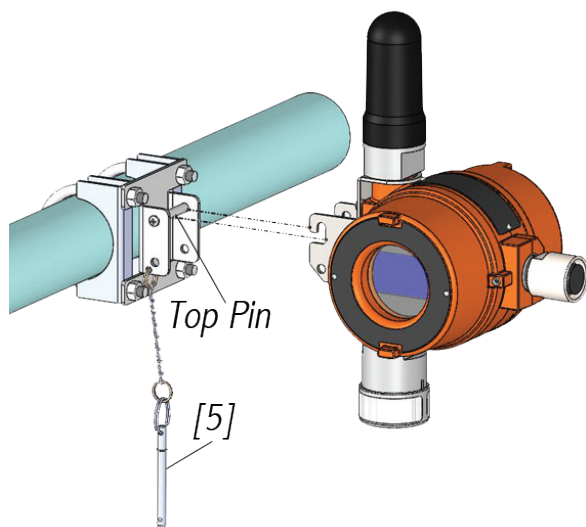

Figure 13
6. Mount device by hooking onto top pin of mounting bracket plate (see Figure 13).